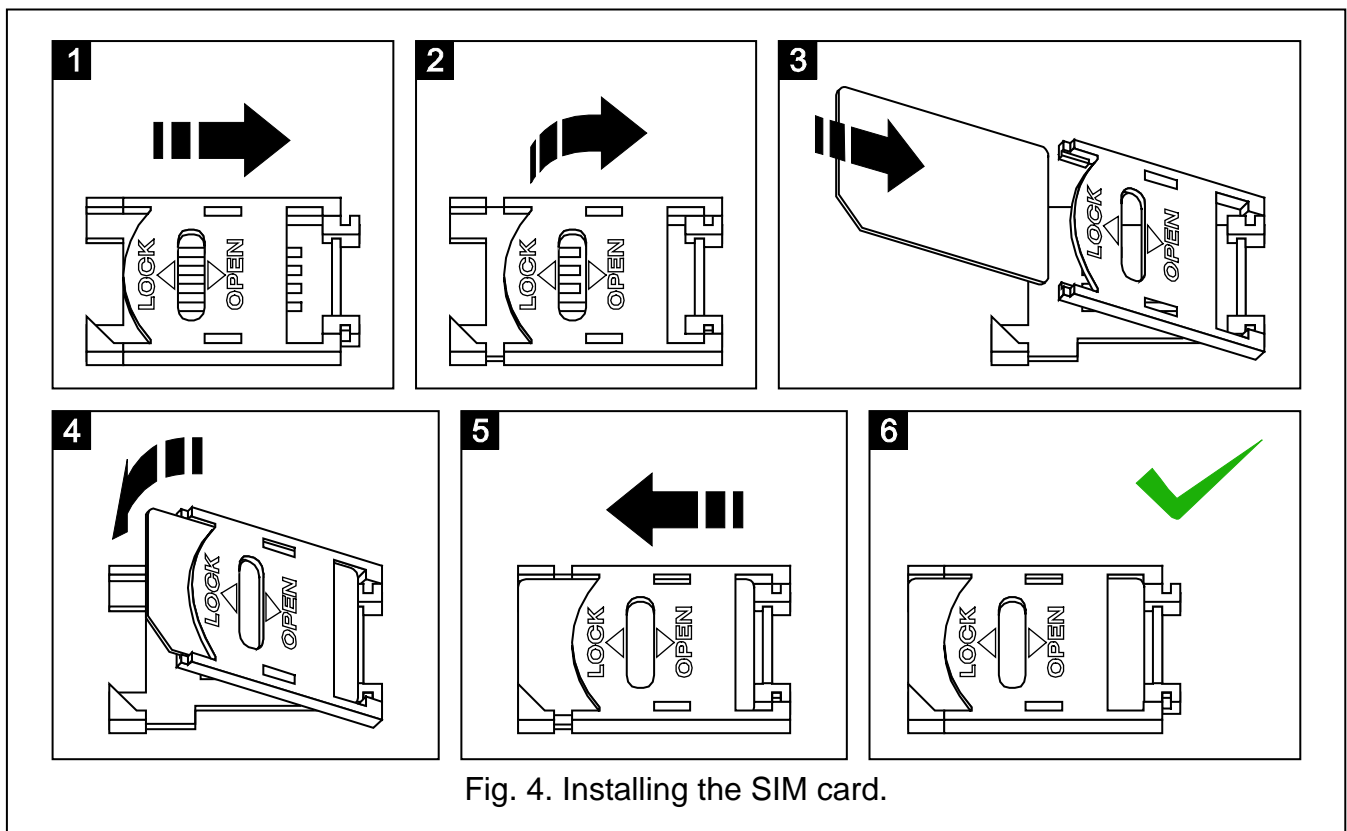

Fig. 4. Installing the SIM card.
8. Insert the SIM card into the socket (see: Fig. 4).